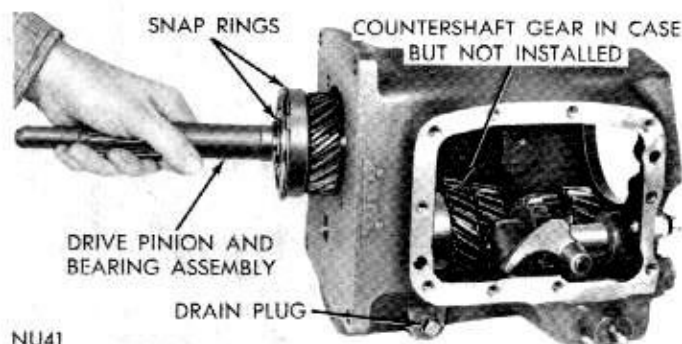
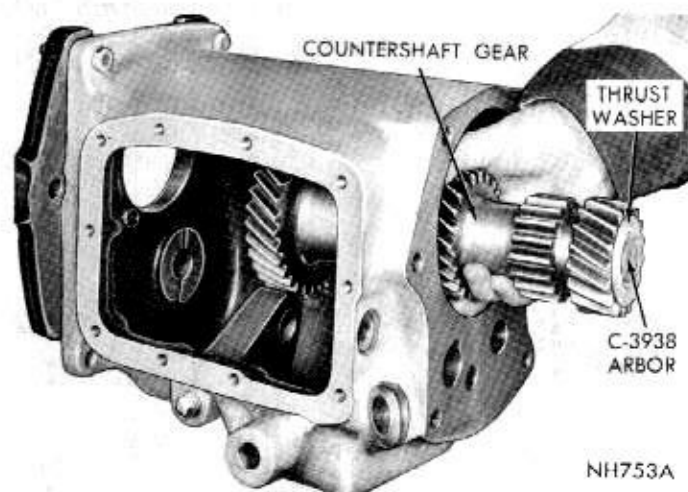

Fig. 31—Removing or Installing Drive Pinion Assy. (Heavy Duty)
Fig. 32—Removing or Installing Countershaft Gear and Arbor
(3) Remove pinion bearing outer snap ring, using a plastic hammer, drive pinion into case and remove. **HEAVY DUTY MODEL** (Fig. 31) because of larger bearing can be removed through front of case.
(4) Remove pinion bearing inner snap ring. Using an arbor press, remove bearing from pinion.
(5) Remove snap ring and 16 bearing rollers from cavity in drive pinion.
(6) Remove countershaft gear from bottom of case (Fig. 32).
(7) Remove arbor and 76 needle type bearings,
(4) Install countershaft gear assembly into the case (Fig. 32). Allow gear assembly to rest on bottom of case. (Be sure thrust washers stay in position.)
(6) Install a new inner snap ring on shaft to retain bearing. Be sure snap ring is seated. This snap ring is a select fit for minimum end play (Fig. 31).
(7) Place pinion shaft in a vise (with soft jaws), then install 16 bearing rollers in cavity of shaft. Coat bearing rollers with heavy grease, then install bearing retaining snap ring in its groove.
(8) Install drive pinion and bearing through rear of case and position in front bore. Tap lightly into place, using a plastic hammer. Install outer snap ring in bearing groove. **HEAVY DUTY MODEL** (Fig. 31) because of larger bearing can be installed through front of case.
(9) Start countershaft in its bore at rear of case. Raise countershaft gear until teeth mesh with main drive pinion gear. (Be sure thrust washers remain in position on ends of arbor and tangs aligned with slots in the case.)
(10) Align countershaft arbor with bores in case, then drive countershaft into the gear. Install the woodruff key. Continue to drive shaft into case until end of shaft is flush with rear face of the case. Remove arbor Tool C-3938.